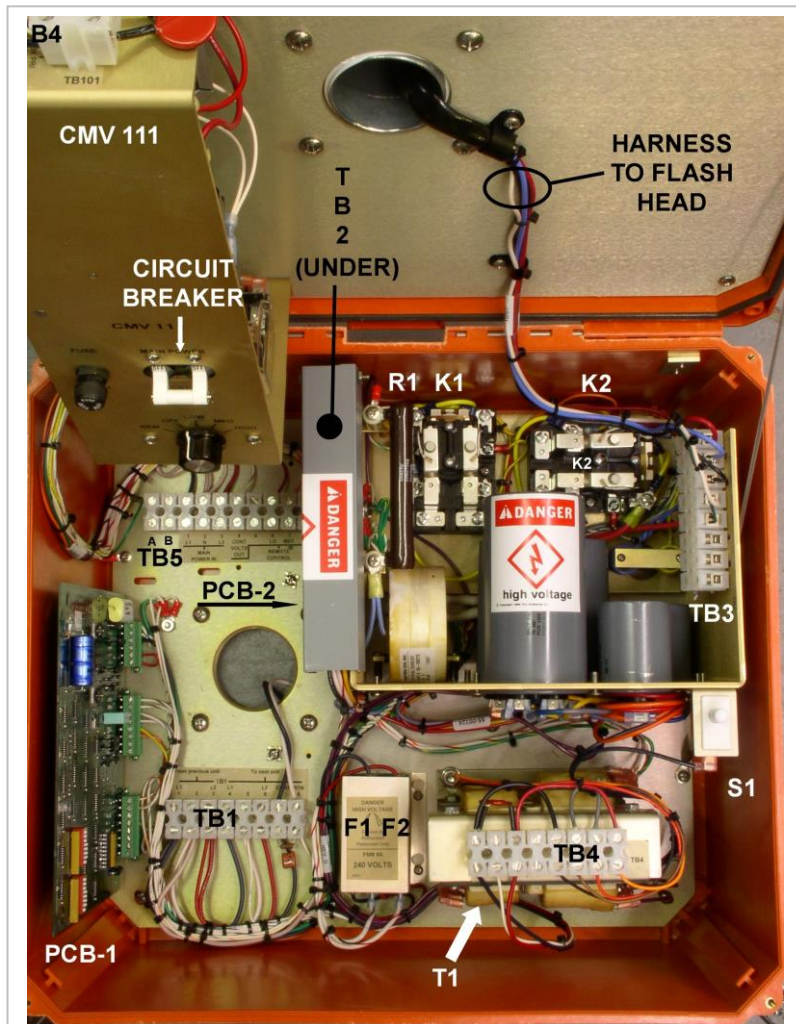
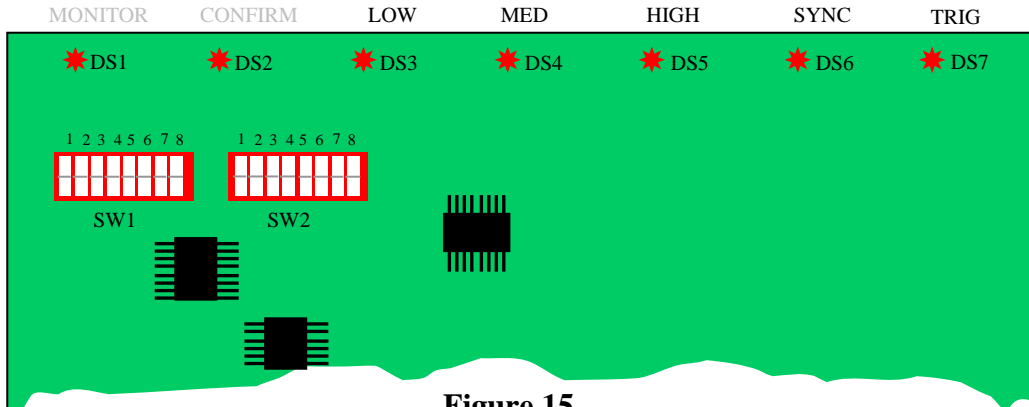

Figure 13
Figure 15
- Check screw tightness on TB1 and TB3 (8-position terminal blocks; (See Figure 13 for locations). Check every position that has a wire connection whether to external wiring or to internal circuits. You should also check TB5 in master units.
It is important to know where the major components are located, especially when attempting to follow troubleshooting procedures. Use Figures 13 and 14 for this information. A slave power supply does not have a CMV 111 Control Module; it is otherwise identical to a master power supply.
Each power supply has two circuit boards with indicator lights that can be used to interpret operating conditions. PCB-1, shown partially in Figure 15, is the timing and control circuit board. Its location is shown in Figure 13. It has six red LEDs, but only four of these apply to standard functions. DS1 and DS2, labeled Monitor and Confirm, are used only when the Monitoring option has been elected at the time of purchase. DS7 is a neon glow lamp. SW1 and SW2 are programming switches.
PCB-2 does not show in Figure 13, but its location beneath the High Voltage Guard is noted (). The LEDs on PCB-2 are in prominent view for safety and troubleshooting. ***Do not touch any circuit component within the power supply or flash head when LED1 or LED2 is lit.***